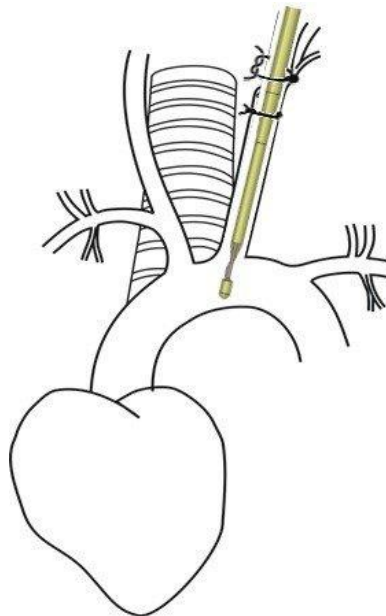

Figure 5: Sensor placement of 1 mm in the aortic arch
- 17) Optimal placement should be with 1 mm of the sensor positioned in the aortic arch. (See Figure 5)